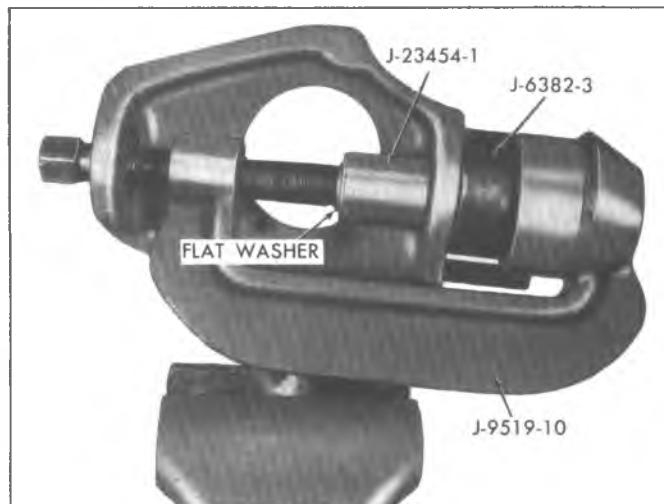

Fig. 64—Removing Upper Ball Joint
15. Remove the upper ball joint using tools J-9519-10, J-23454-1, and sleeve J-6382-3 or equivalent as shown in Figure 64.
- cotter pin hole in the stud end) is straight. Press the stud into the knuckle until properly seated using tools J-9519-10, J-23454-2, and J-6382-3 or equivalent as shown in Figure 64 and install snap ring.